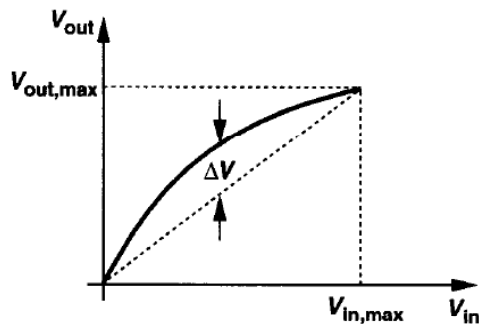

Figure 13.4 Definition of nonlinearity.
- **Another** useful metric is to specify the **maximum deviation** from an ideal characteristic (See Fig. 13.4)